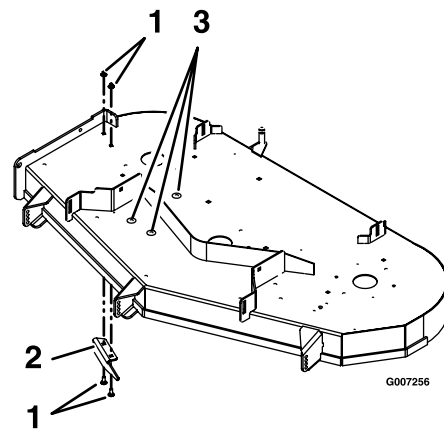

FIGURE 2
7. Remove the existing hole cover decals, discharge baffle, and mounting hardware as shown in Figure 2.
1. Safely remove all mulch baffles (items 1, 5, and 7).
3. Install discharge baffle and re-locate 5/16 inch bolts as shown in Figures 2 and 3.